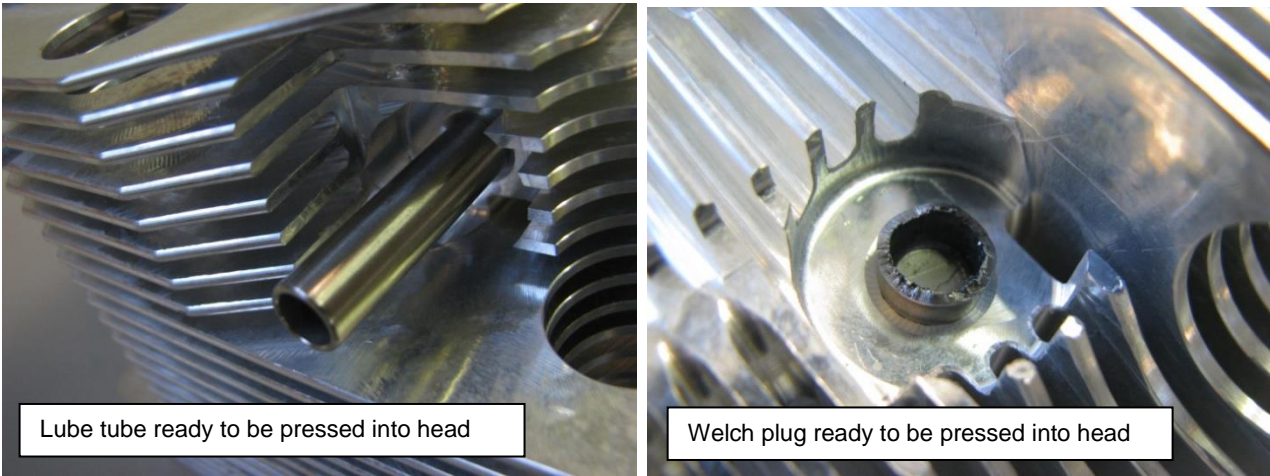

Figure 146 – Cylinder Head Welch Plug & Lube Tube Installation.
- If new heads are being fitted to an engine then in most cases some small Welch plugs must be fitted to the head. For engines using the external oil feed tube for the rocker gear small tubes must also be fitted to the head. Both of these parts are pressed into the cylinder head (Figure 146).
- For engines using the hollow pushrod oil feed the oil ports in the side of the heads are not used. In that case 2 Welch plugs (Figure 146, right) are fitted to the head – one on each side – to blank them off.